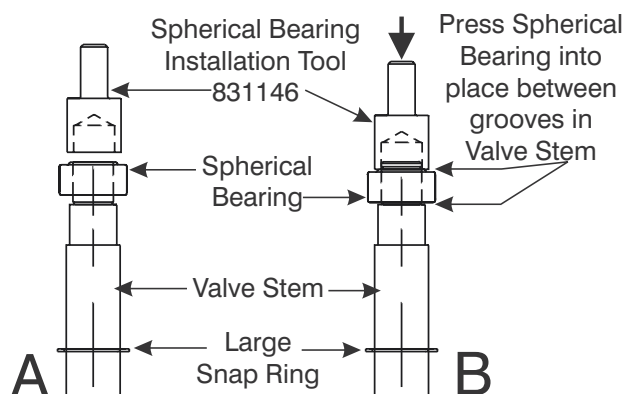

Figure 9-15. Press Spherical Bearing into place on the Valve Stem.
10. Turn the Spherical Bearing Installation Tool 831146 so the stem of the tool is up. Center the tool over the Spherical Bearing as shown in Figure 9-15-A.
11. Using tool 831146, press the Spherical Bearing onto the Valve Stem as shown in figure 9-15-B.